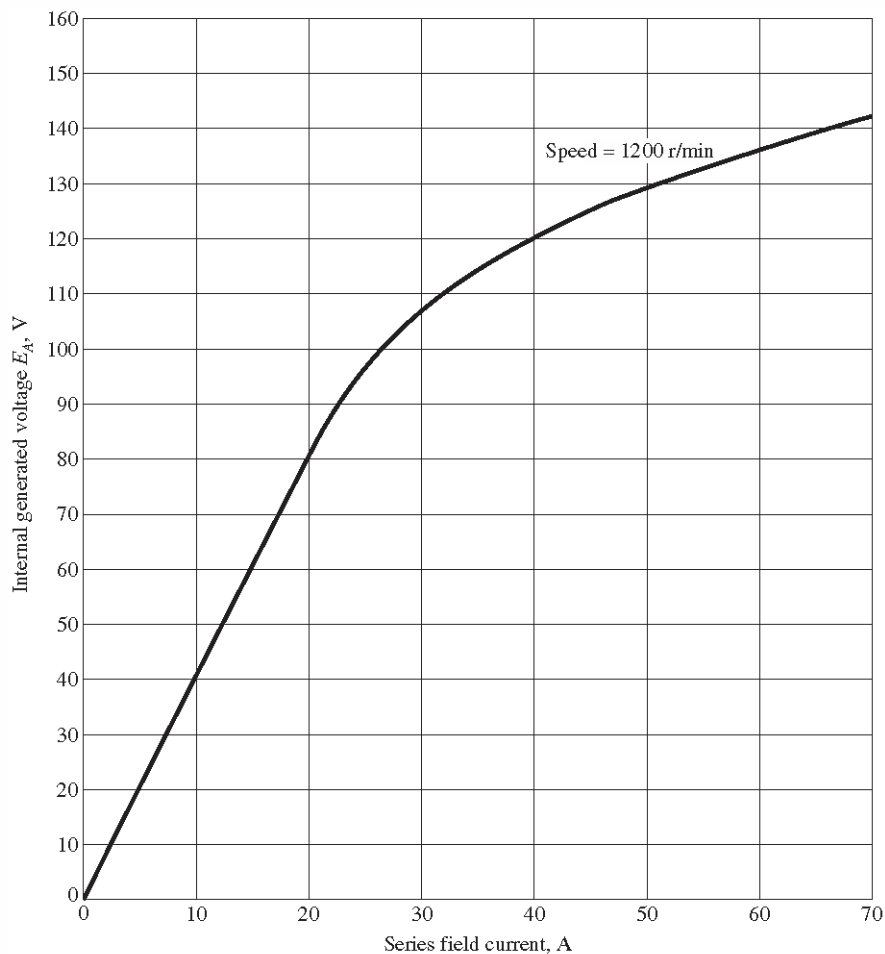

FIGURE P8-5
- 8-13.** A 7.5-hp 120-V series dc motor has an armature resistance of $0.1 \, \Omega$ and a series field resistance of $0.08 \, \Omega$. At full load, the current input is 56 A, and the rated speed is 1050 r/min. Its magnetization curve is shown in Figure P8-5. The core losses are 220 W, and the mechanical losses are 230 W at full load. Assume that the mechanical losses vary as the cube of the speed of the motor and that the core losses are constant.
From Figure P8-5, the internal generated voltage E_{A2} for a current of 40 A and a speed of $n_o = 1200$ r/min is $E_{A2} = 120 \text{ V}$, and the internal generated voltage E_{A1} for a current of 56 A and a speed of $n_o = 1200$ r/min is $E_{A1} = 133 \text{ V}$.